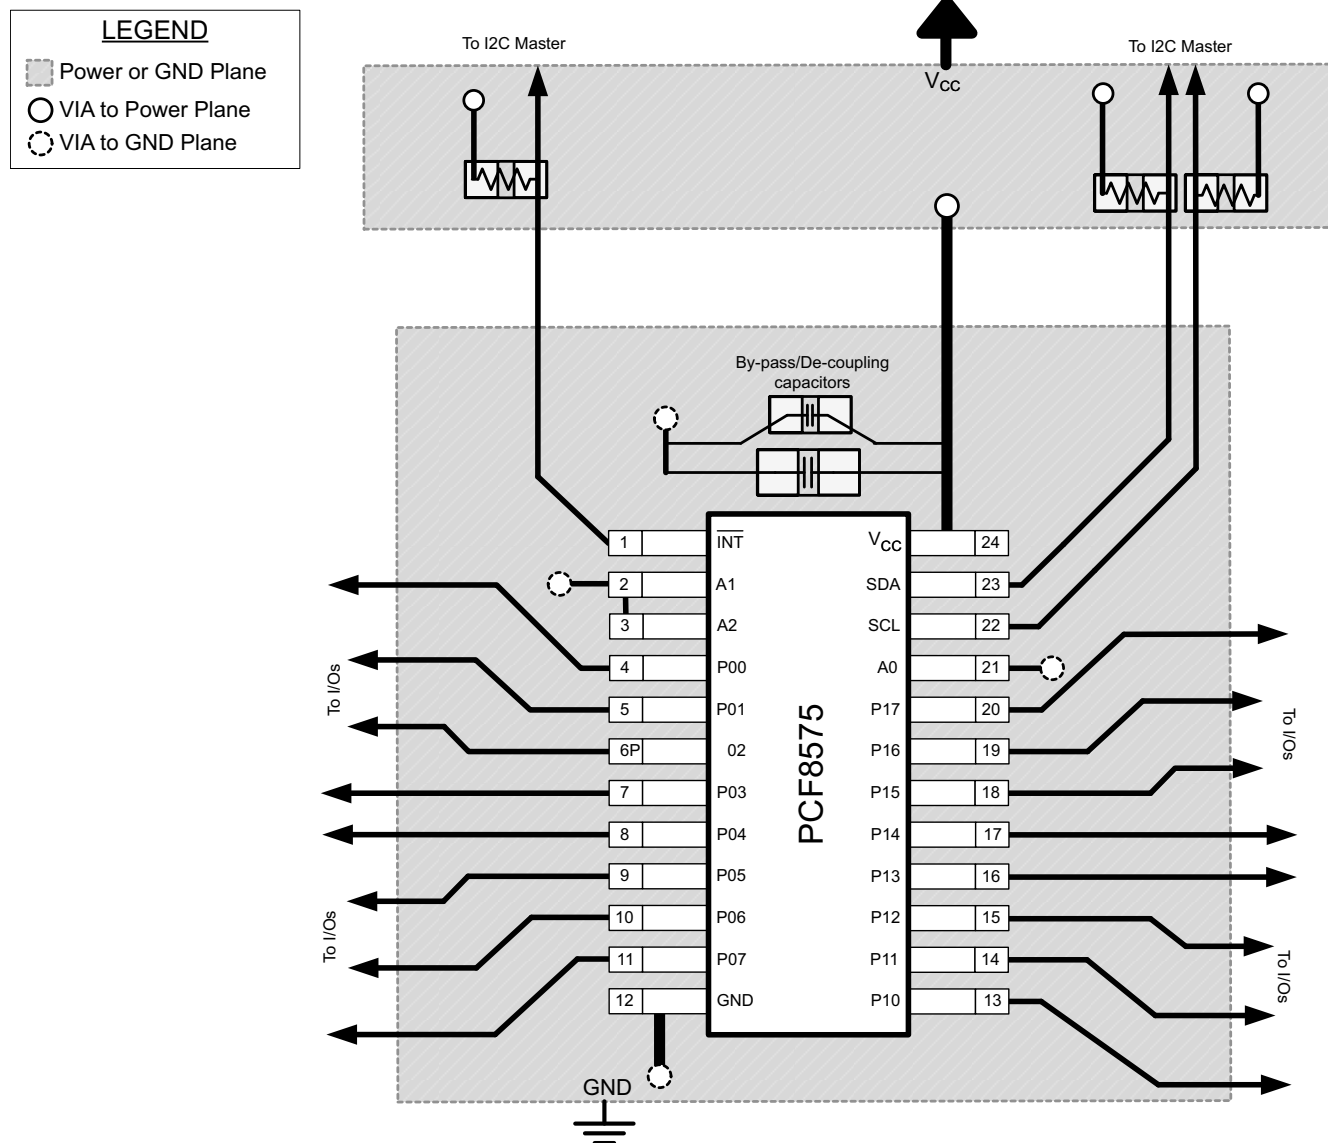

图 9-6. Layout Example for PCF8575
In all PCB layouts, it is a best practice to avoid right angles in signal traces, to fan out signal traces away from each other upon leaving the vicinity of an integrated circuit (IC), and to use thicker trace widths to carry higher amounts of current that commonly pass through power and ground traces. By-pass and de-coupling capacitors are commonly used to control the voltage on the V_{CC} pin, using a larger capacitor to provide additional power in the event of a short power supply glitch and a smaller capacitor to filter out high-frequency ripple. These capacitors should be placed as close to the PCF8575 as possible. These best practices are shown in 图 9-6.
For the layout example provided in 图 9-6, it would be possible to fabricate a PCB with only 2 layers by using the top layer for signal routing and the bottom layer as a split plane for power (V_{CC}) and ground (GND). However, a 4 layer board is preferable for boards with higher density signal routing. On a 4 layer PCB, it is common to route signals on the top and bottom layer, dedicate one internal layer to a ground plane, and dedicate the other internal layer to a power plane. In a board layout using planes or split planes for power and ground, vias are placed directly next to the surface mount component pad which needs to attach to V_{CC} or GND and the via is connected electrically to the internal layer or the other side of the board. Vias are also used when a signal trace needs to be routed to the opposite side of the board, but this technique is not demonstrated in 图 9-6.